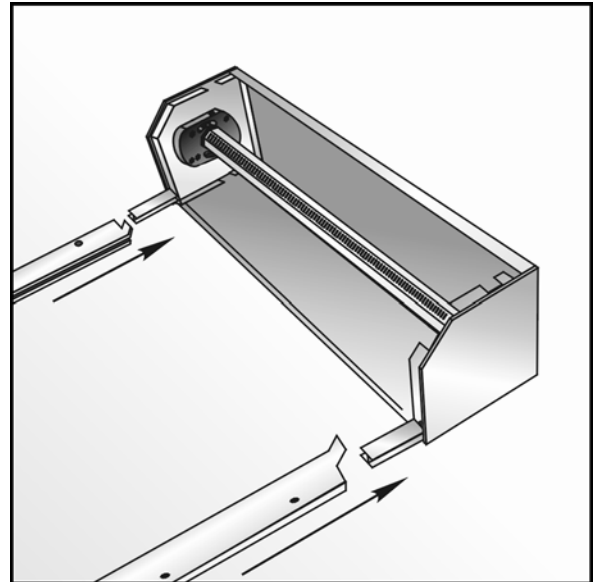

Fig. 2.16
10. Assemble the frame of roller garage doors (shutter box assembled with end caps and guide rails) (*fig. 2.16*).